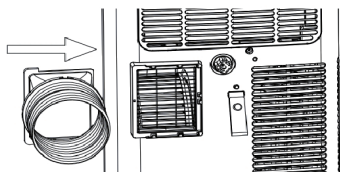

fig. 2
2. Align the hose inlet with the slots on the left side of the air exhaust outlet and slide in to insert. (fig. 2)